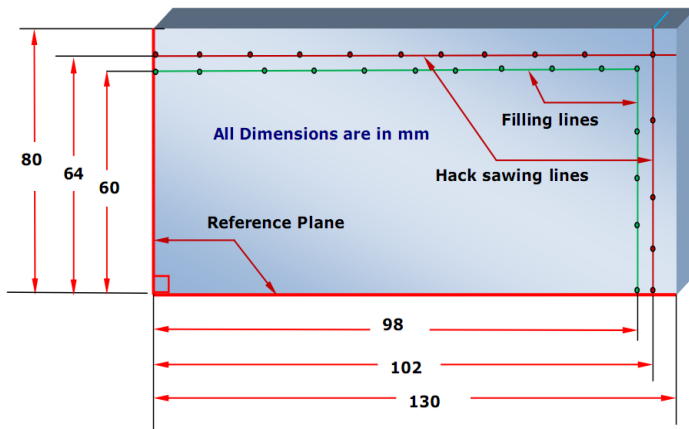

Fig.2.1. The filling and hack sawing lines.
**Step 2-** Use the surface plate, surface gauge and steel ruler to set the required height as shown in Fig.2.1.